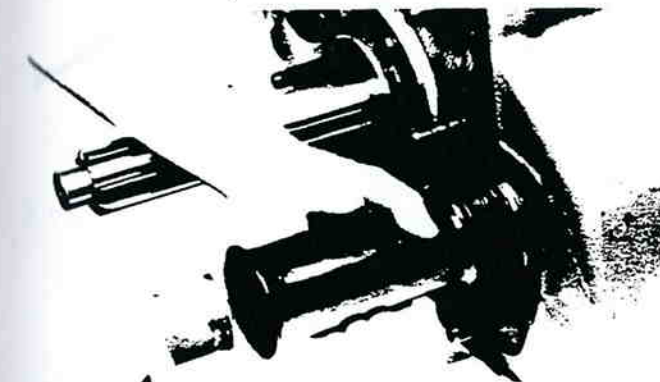

Figure 13-110. Installing Countershaft.
3. With timing teeth still in mesh, install countershaft front bearing. Center countershaft in case bore using a small screwdriver inserted through bearing I.D. and in bell center or either threaded hole in end of shaft (figure 13-110).